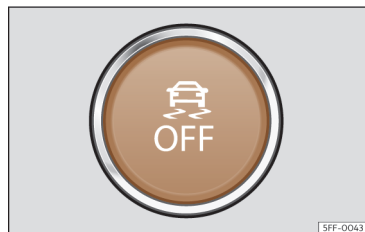

Fig. 119 On the lower part of the centre console: ESC on/off button
• The TCS can be switched on and off by briefly pressing the  button on the centre console >>> **Fig. 119.**
• In Sport mode, the ESC can be switched off and on by briefly pressing the  button on the centre console >>> **Fig. 119.**
• The ESC can be switched on and off by briefly pressing the  button on the centre console >>> **Fig. 119.**